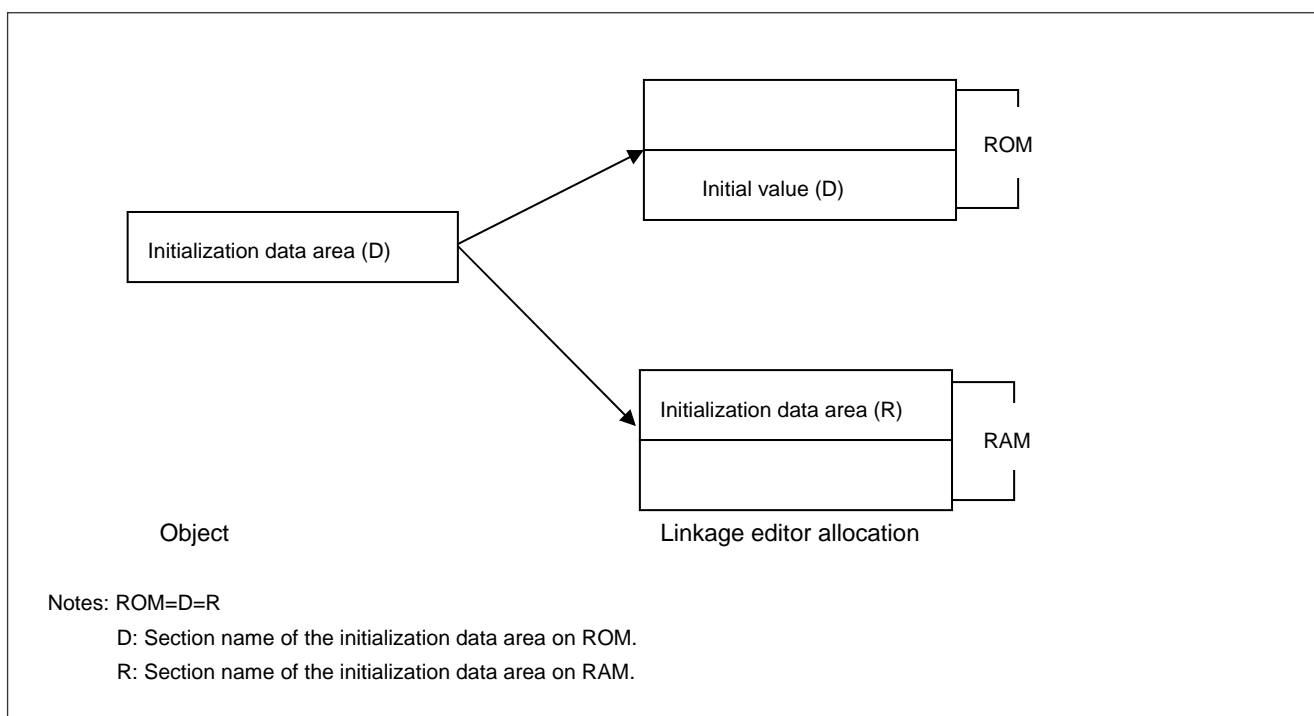

Figure 3.19 Memory Allocation Using the ROM Support Function
- (a) An area in RAM of the same size as the initialization data area in ROM must be secured. Figure 3.19 illustrates the procedure to copy the initialization data area from ROM to RAM.